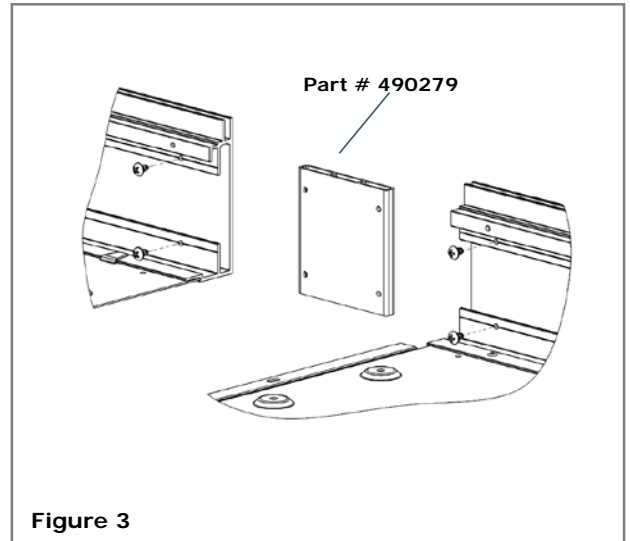

Figure 3
1. Adjoining sections are held together by splice plates (part #490279). **See Figure 3.**